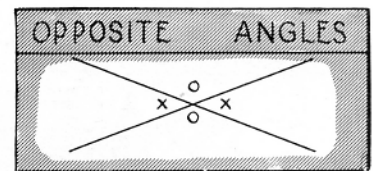

FIG. 338
4. When two straight lines intersect, the opposite angles formed by the intersecting lines are equal. The angles marked (X) and the angles marked (O) are equal (Fig. 338).